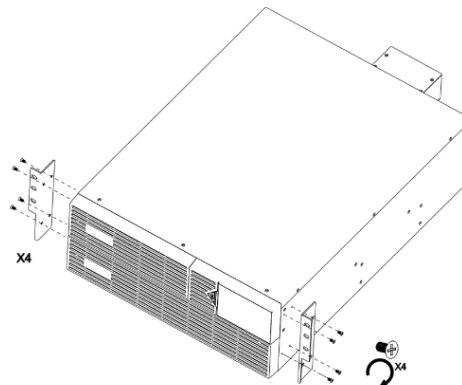

Figure 4
4. Attach the Rackmount Ears to the left- and right-front of the UPS. (Fig. 4)